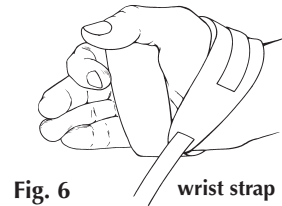
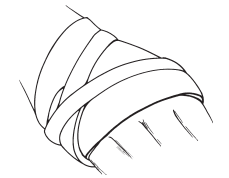

Fig. 6
Fig. 7
2. Wrap the wrist strap across the palm and attach starting near the base of the small finger and continuing toward space between thumb and finger (Fig. 6). Properly secured straps should form an X or V pattern when viewed from the back of the hand (Fig. 7). Snug the Cuff enough to prevent movement on the hand but not so tight as to cause discomfort or finger swelling.